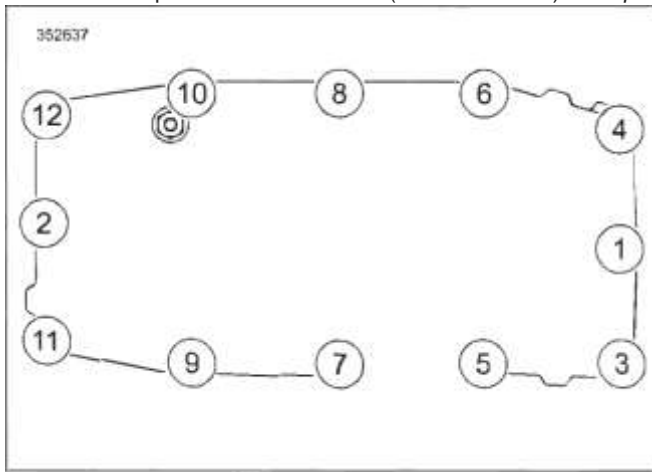

Figure 4-79. Oil Pan Tightening Sequence
- c. Place new gasket (1) on oil pan flange. Allow sealant to dry until tacky.
- e. Loosely install fasteners (4).
- f. See Figure 4-79. Tighten fasteners in sequence shown.